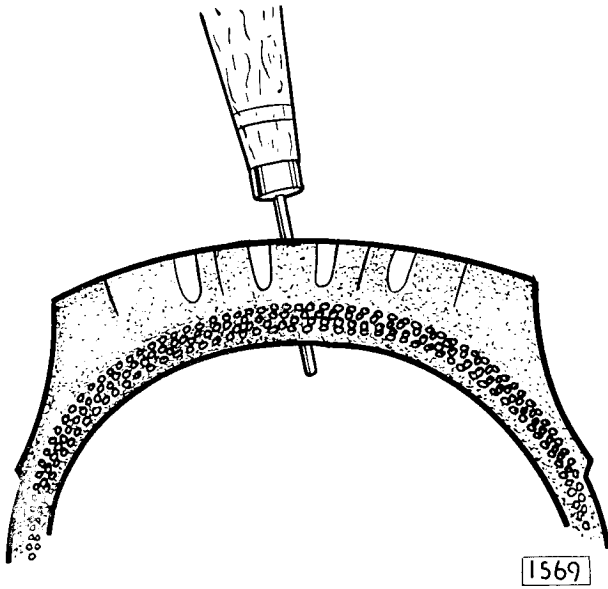

Fig. 25. Determining direction of penetration with probe.
1. Extract the penetrating object and determine the direction of penetration by inserting the small wire probe through the hole and leave in position (Fig. 25). If the tyre is leaking and the puncturing object cannot be located by sight, it is necessary to immerse the inflated tyre in water.